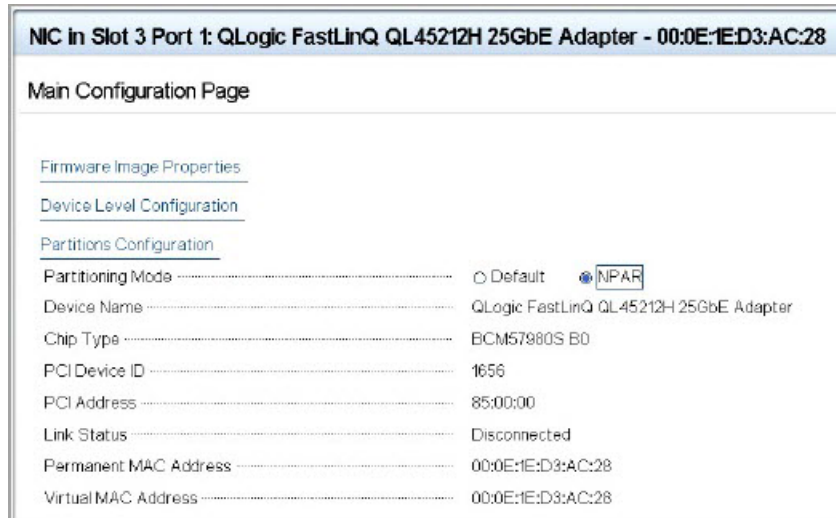

Figure 5-5. Main Configuration Page, Setting NPAR Partitioning Mode
- ❑ Setting the **Partitioning Mode** to **NPAR** adds the **Partitions Configuration** option to the Main Configuration Page, as shown in Figure 5-5.